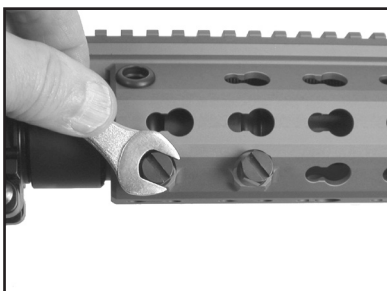

Fig. 74 – Tightening the locking screws
2. Tighten the locking screws. The 11 mm ($7/16"$) hex screws allow a variety of wrenches or screw drivers to be used for installation or removal. **DO NOT OVERTORQUE.** (Fig. 74 & 75)